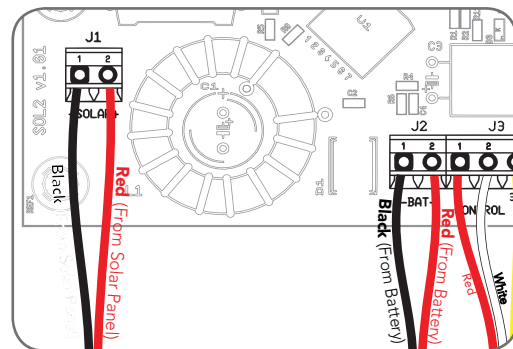

Fig 16
2. Connect the **red wire** to the Charger Board's "SOLAR+" connector, and the **black wire** to the "-SOLAR" connector (Fig. 16).
5. Connect the **red wire** to the Charger Board's "BAT+" connector, and the **black wire** to the "-BAT" connector (Fig. 16).